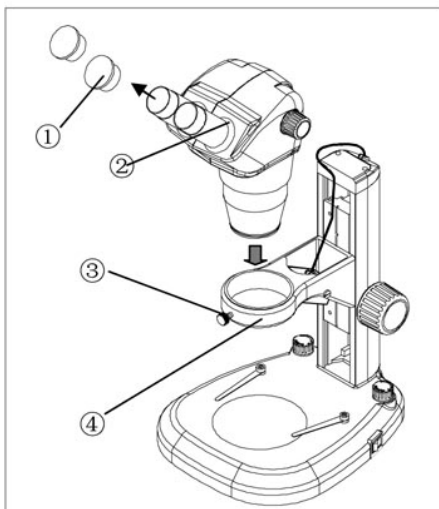
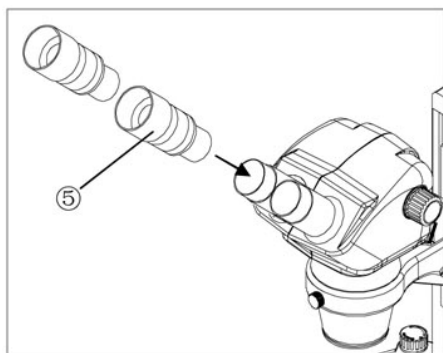

Fig. 1
Fig. 2
### Mounting the Binocular Head (Fig. 1)
### Mounting the Eyepieces (Fig. 1, Fig. 2, Fig. 3)
Remove the eyepiece dust caps ① (Fig. 1) and gently insert the two adjustable eyepieces ⑤ (Fig. 2) into the eyepiece sleeves until they stop, as shown in Fig.3. Replace the dust caps when not in use.